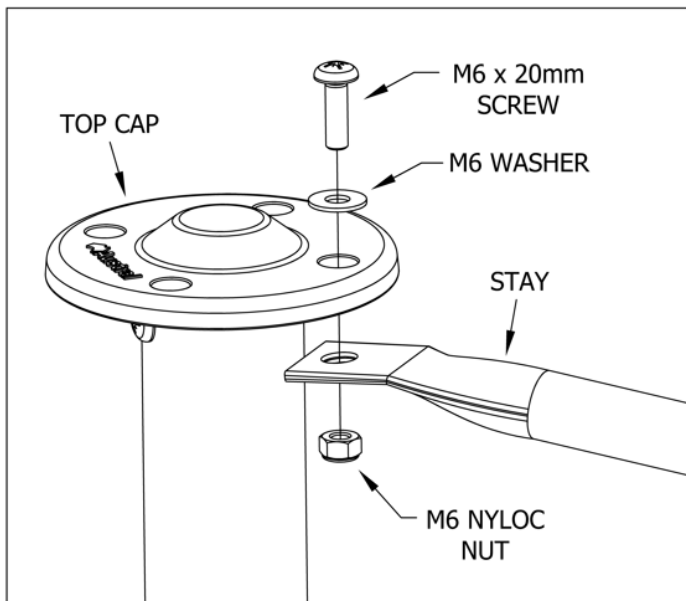

Fig 4. Fit Stay to top cap.
1. Fit a stay to the underside of the top cap using an M6 x 20mm pan head machine screw, washer and nyloc nut. (Fig 4).